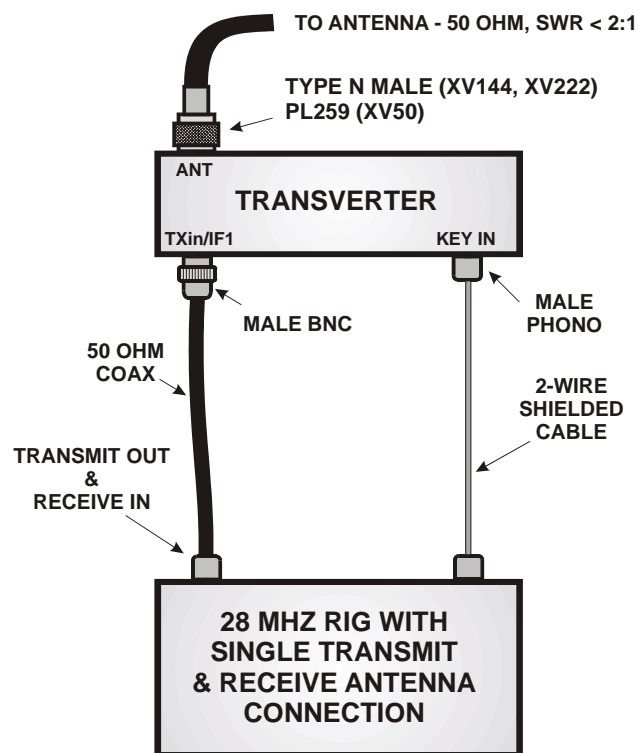

Figure 47. Connecting the Transverter to a Non-Elecraft 28-MHz Rig with a Single Transmit and Receive RF Path.
- Connect the cables as shown in Figure 47.